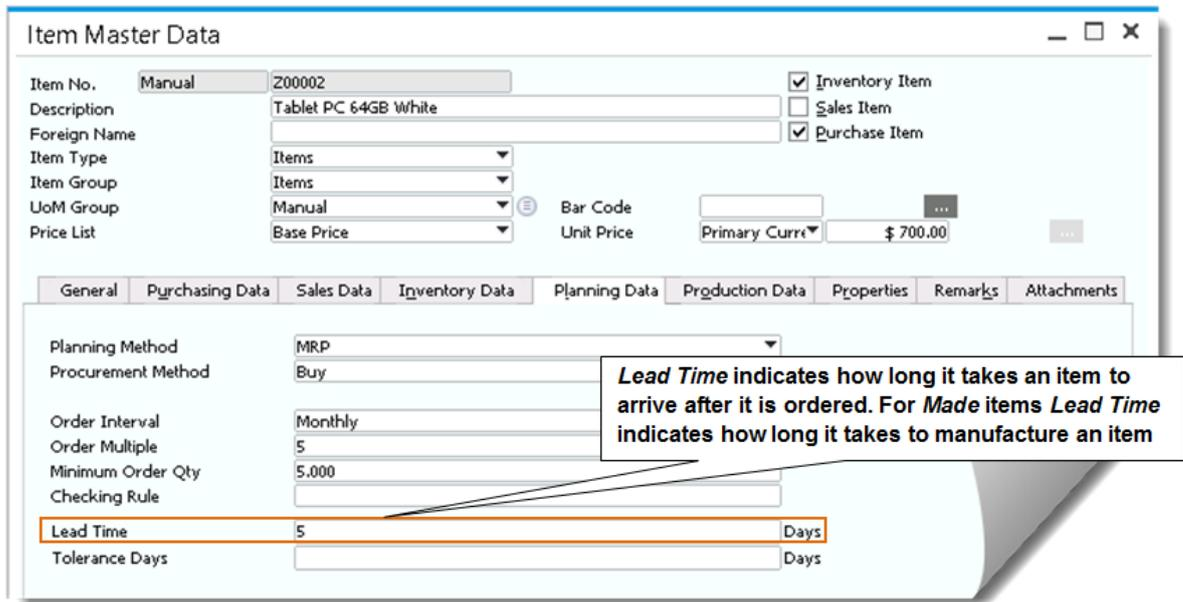

Figure 7-2: Lead Time field used in MRP calculations
Figure 7-2 shows the **Lead Time** field on the **Planning Data** tab of the **Item Master Data** window (available by choosing **Inventory** from the **Main Menu**). This is one of the most important fields to specify correctly because the accuracy and usefulness of the MRP run is governed by this data.
- Specify the lead time it takes to purchase or make the item, as shown in Figure 7-2.